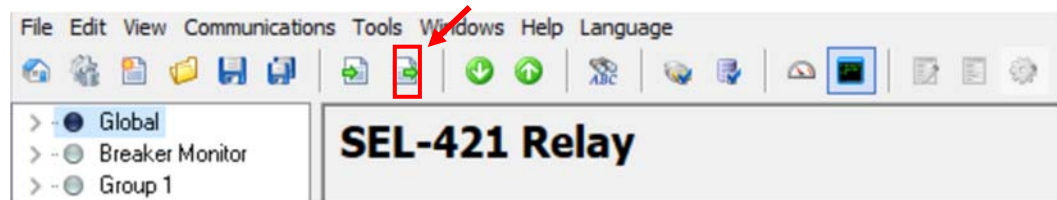

Figure 63: Send Settings to 421
45. Send the relay settings to the 421 by clicking the button as shown in Figure 63.